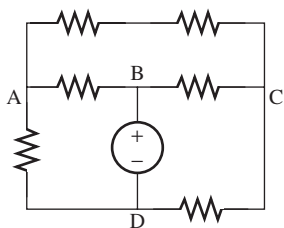

FIGURE P3.29 Circuit for Problem 3.29.
3.29 (B) Which node is the best choice for a reference node in the circuit in Figure P3.29?
3.42 (B) Identify the meshes and mark the mesh currents in Figure P3.29.